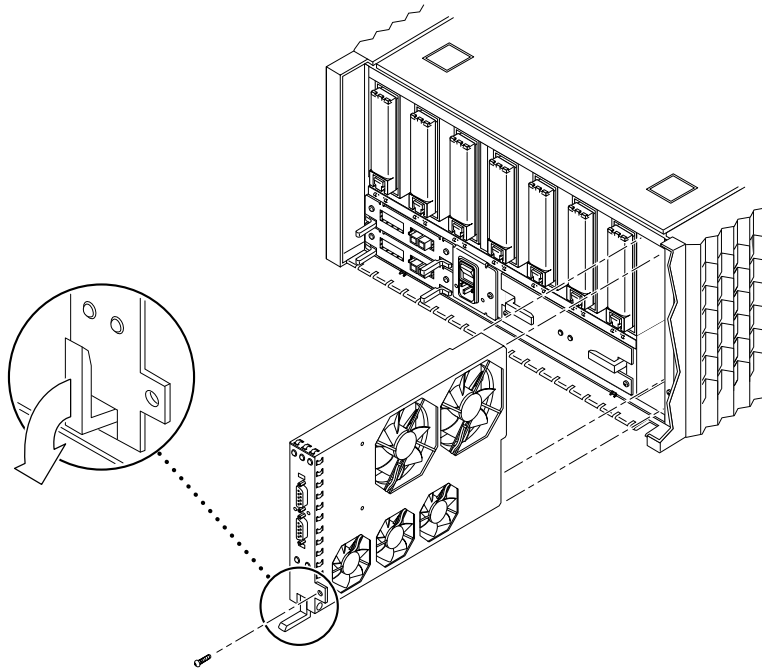

FIGURE 7-11 Removing a Fan Tray
2. Use the Phillips screwdriver to remove the screws (FIGURE 7-11).